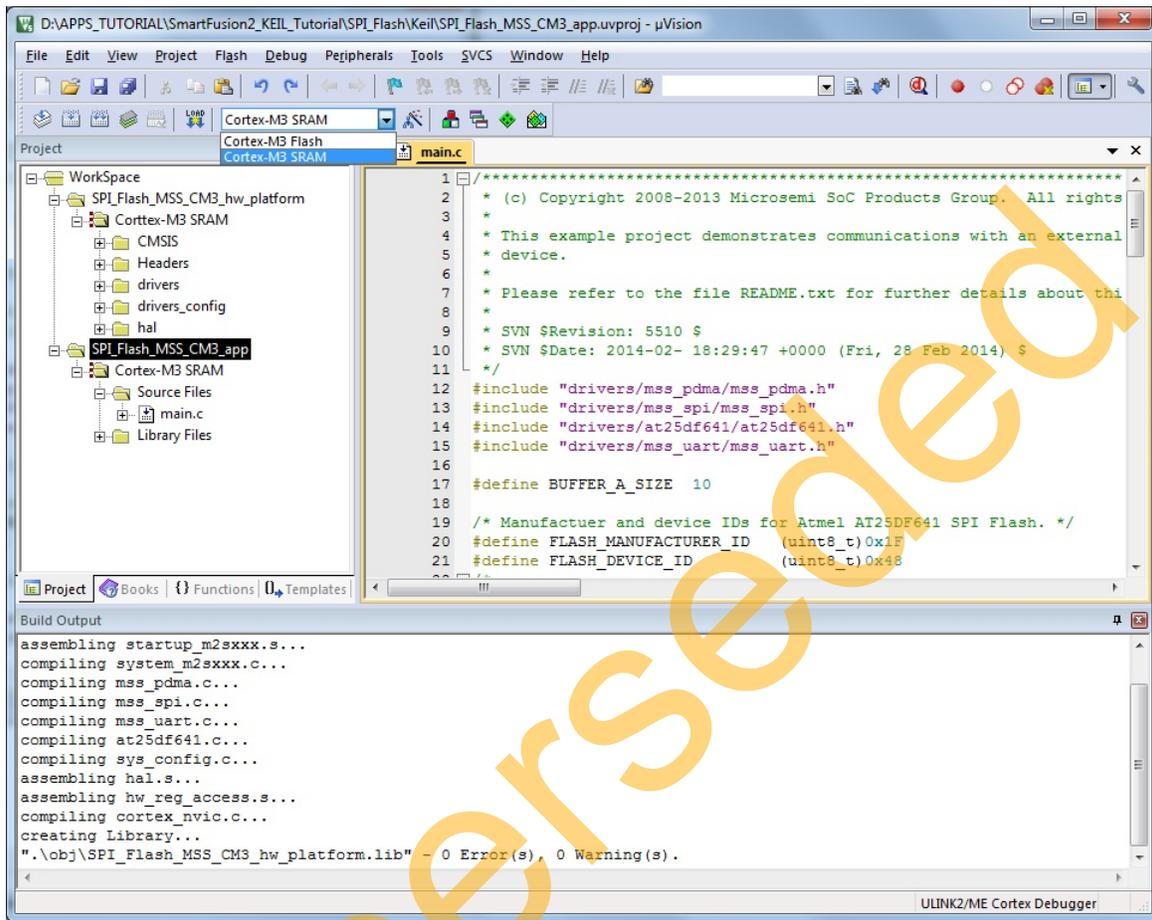

Figure 28 • Cortex-M3_SRAM Settings
- Change **SPI_Flash_MSS_CM3_app** debug mode to **Cortex-M3_SRAM** by selecting **Cortex-M3_SRAM** from the drop-down menu as shown in Figure 28.